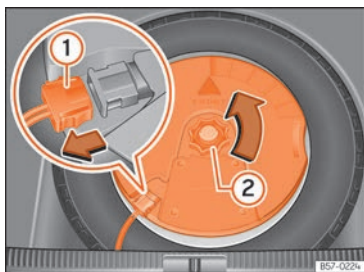

Fig. 193 In the boot: remove the subwoofer.
- Disconnect the subwoofer's speaker cable >>> **Fig. 193 (1)**.
- Turn the securing wheel anti-clockwise >>> **Fig. 193 (2)**.